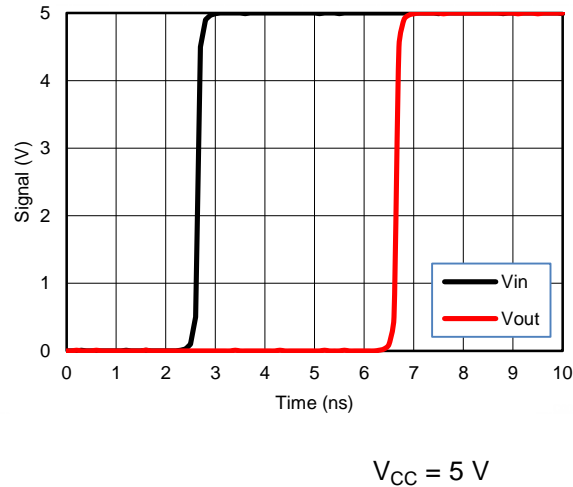

Figure 12. Simulated Input-to-Output Voltage Response Showing Propagation Delay
- Figure 12 illustrates the effects of frequency on output current.